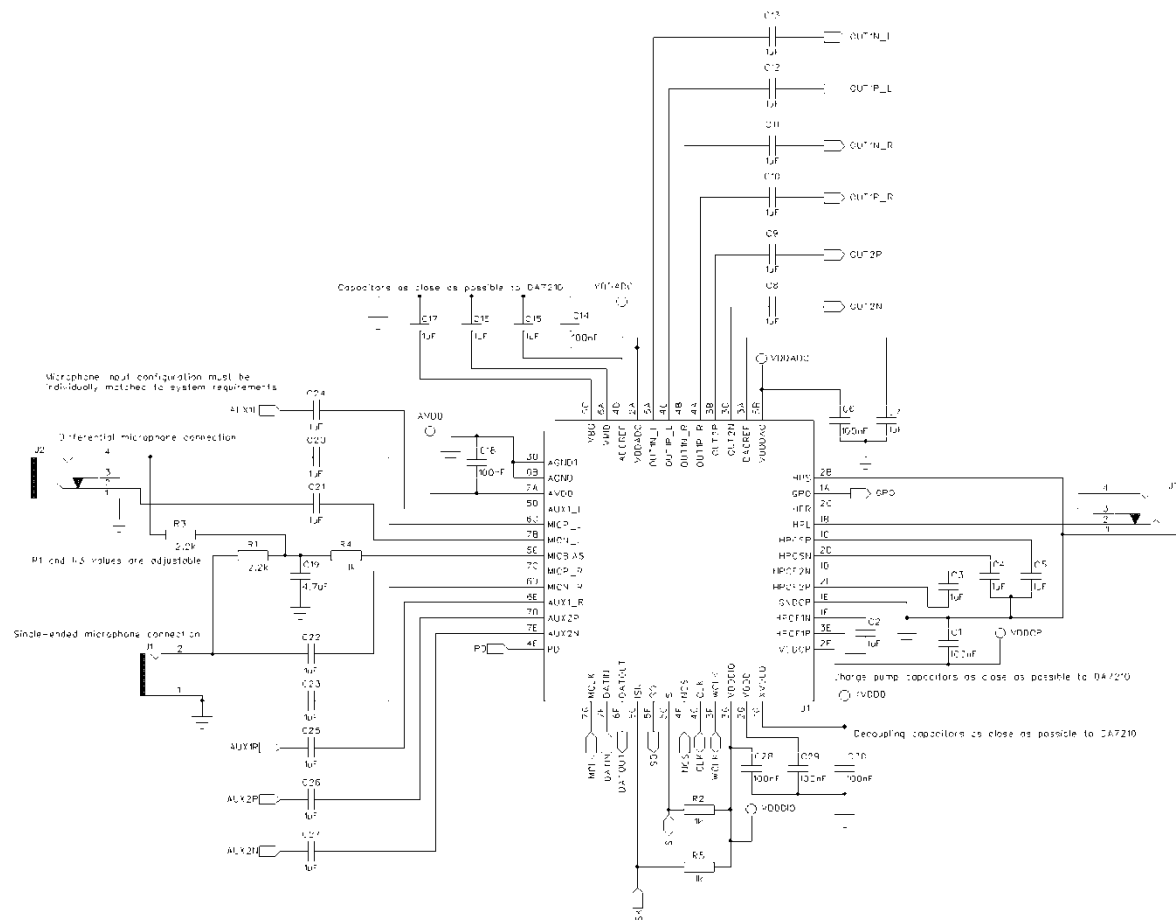

Figure 49: DA7210 49-pin CSP component recommendations
To ensure datasheet performance is maintained it is recommended that the following minimum component criteria are met. Figure 49 shows recommended components and input/output configurations.
- Headphone output and microphone input connectors shown in Figure 49 are of the 3.5 mm RCA/phono type, but any other suitable connector is acceptable.
- If two microphones are supplied by this pin, then separate RC circuits are implemented for each microphone to provide isolation between inputs, as shown in Figure 49.